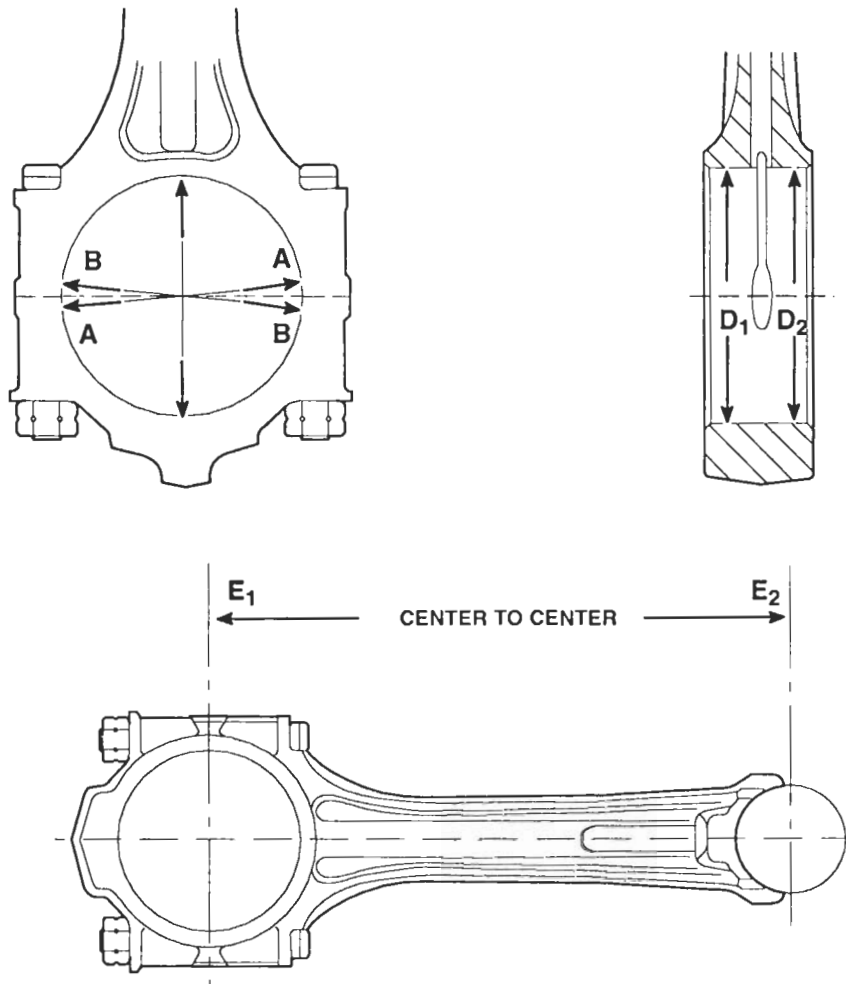

Figure 14. Dimensional Inspection of Cross-Head Piston Connecting Rod
2. Determine the average bore diameter of the rod, using a dial bore gage and master ring as follows (Figure 14.)